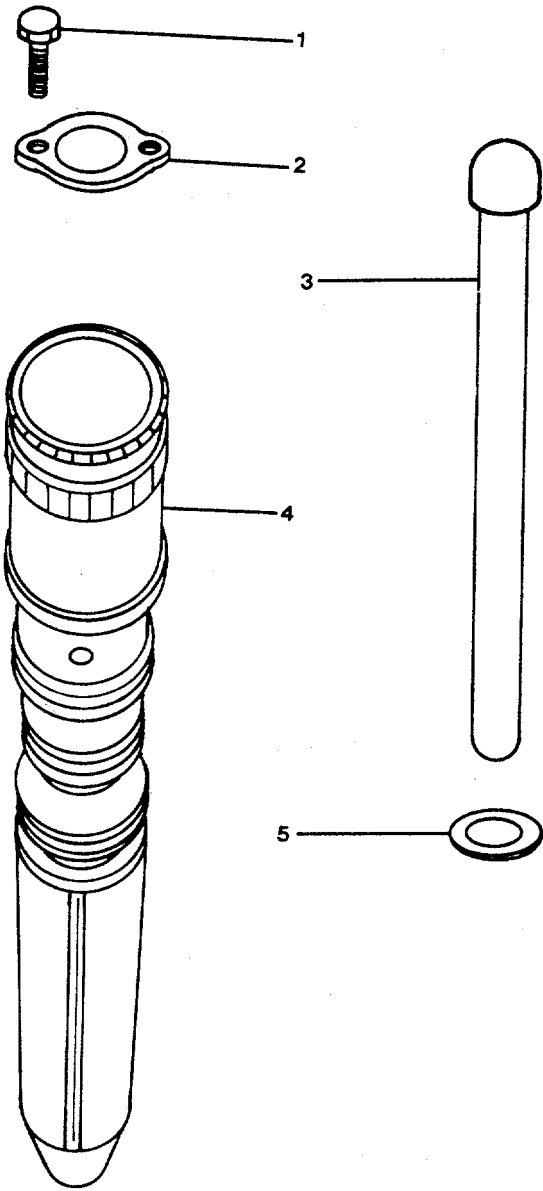
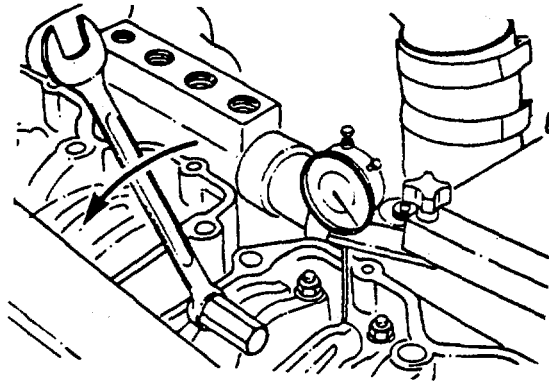

FIGURE 2-42. Injector Group.
FIGURE 2-43. *Using Rocker Lever Actuator.*
- (1) Remove the engine poppet valve rocker assembly cover (paragraph 2-39).
- (2) Check the injector clamp (2, Figure 2-42) for tightness. Tighten hexagon head capscrews (1) (see Replacement Procedure Step e).
- (3) Run the engine until it warms up to 1600F (700C).
- (4) Install a rocker lever actuator on an injector rocker lever as shown in Figure 2-43.
- (5) Hold the injector plunger down while the engine is running as low idle.
- (6) If the engine RPM decreases when an injector plunger is held down, the injector is good.
- (7) If the engine RPM does not decrease, replace the injector. Refer to the Removal and Replacement steps of this procedure.
- a. Install the injector (4, Figure 2-42) in the cylinder head injector bore.
- f. Install the injector plunger (3, Figure 2-42) and washer (5) in the injector (4).